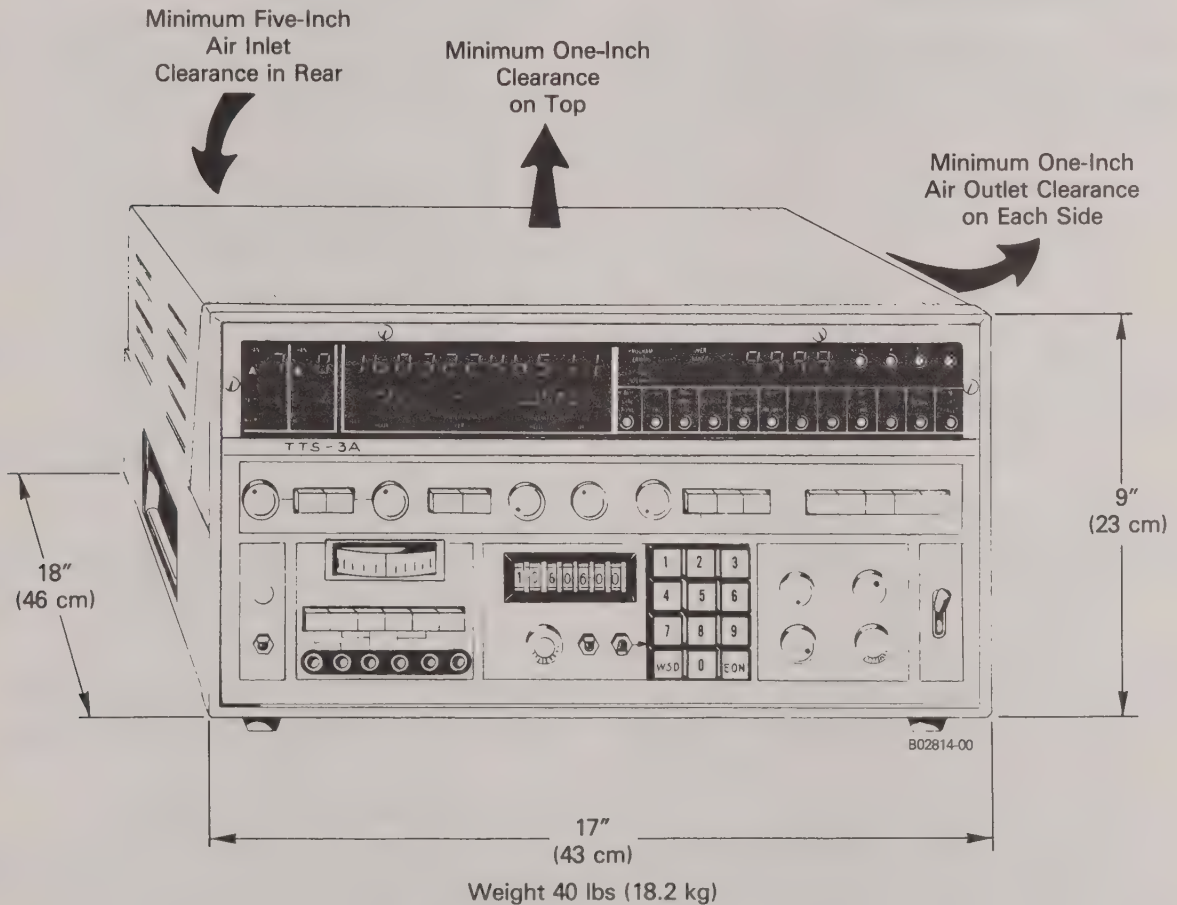

Fig. 1—Air Flow Requirements
2.03 Major dimensions of the Model 41-3A are shown in Fig. 1. A clearance of five inches in the back of the unit is required for cable connections and the cool air inlet. Also, one inch clearance at the top and sides is needed for air flow.